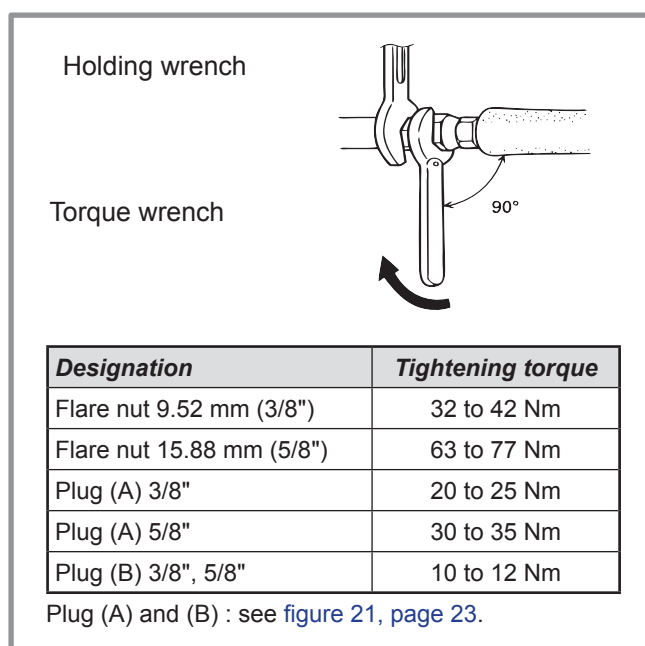

figure 19 - Tightening torque
- Remove the access plugs (A) from the valve controls.
- Refit the 2 original caps (be sure they are clean) and tighten them to the recommended tightening torque (figure 19, page 20). The sealing is performed in the caps only metal to metal.